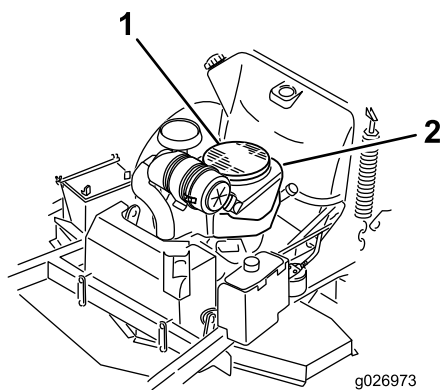

Figure 63
3. Remove the air-intake screen and fan housing (Figure 63).
5. Install the air-intake screen, the recoil starter, and the fan housing (Figure 63).